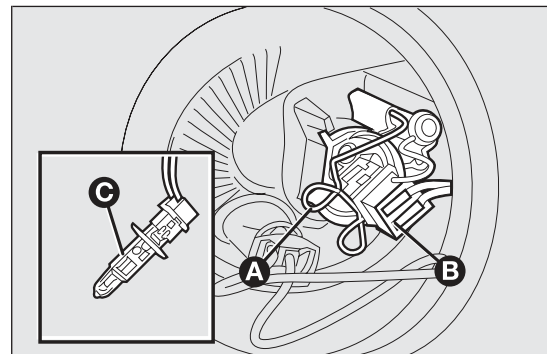

fig. 160
- ☐ release the bulb holding clip A fig. 160;